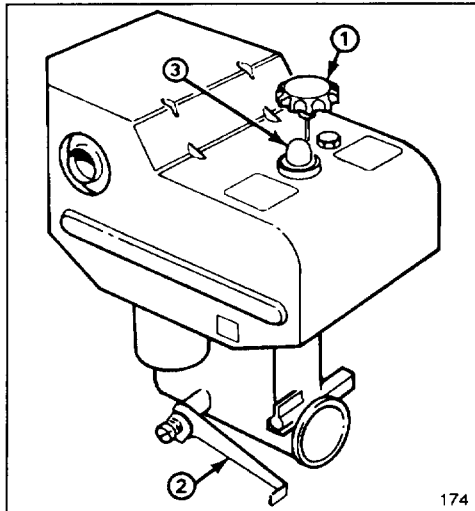

Figure 13
Throttle (Fig. 13)—Pulling the throttle upward increases the engine speed.
Choke (Fig. 13)—Choke is located on left side of engine. Push choke down
Primer (Fig. 13)—Press primer to pump small amount of gasoline into engine for improved cold weather starting.
4. Move choke to ON choke position (Fig. 13).
6. Depress primer (Fig. 13) five times.
8. After engine starts, immediately move choke (Fig. 13) to 3/4 position. As engine warms up, move choke to 1/2 position; then to OFF position. If engine falters, return choke to 1/2 position. When engine warms sufficiently, move choke to OFF position.